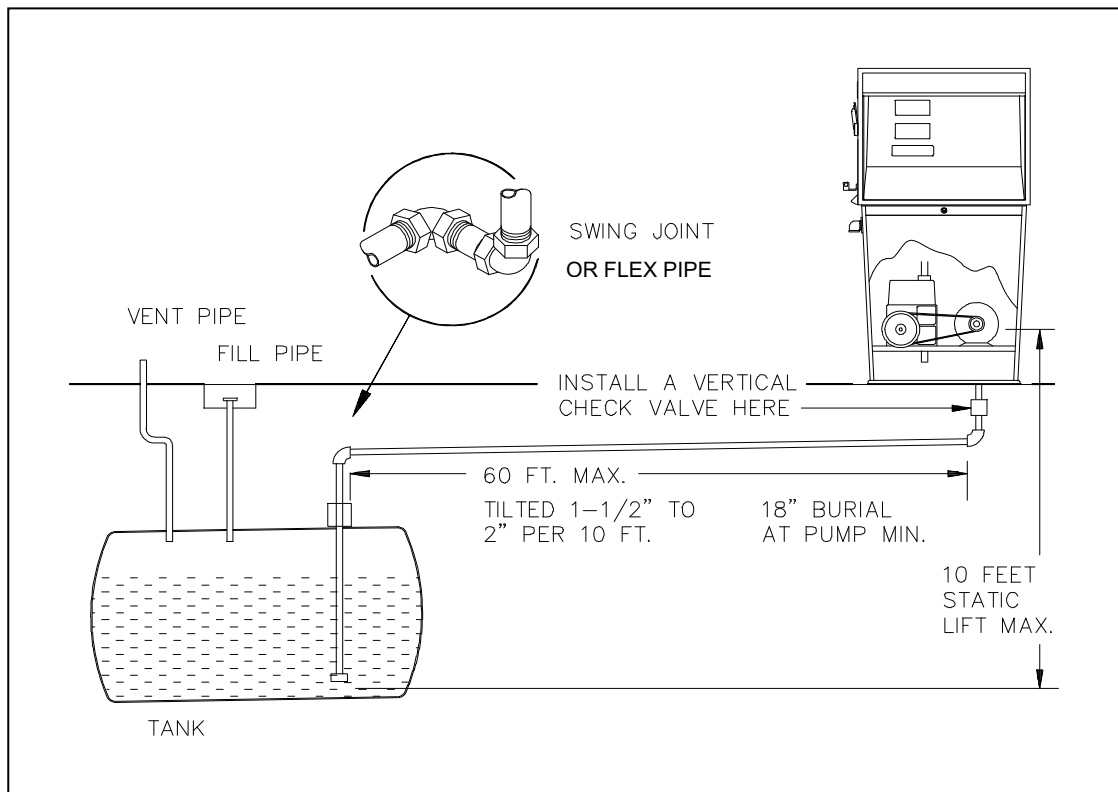

Figure 1
2. Swing joints or flex pipe must be used at the ends of the horizontal pipe between the dispenser and the tank. See Figure 1 on the following page. These joints prevent leaks which might develop through ground movement from settling of the tank, frost heaving of the ground or pump island settling. The joint or flex pipe under the dispenser also aids proper alignment of the product pipe to the dispenser inlet.
1. The total length of horizontal piping between the pump and tank must be no more than 60 feet. See Figure 1.
- e. Swing joints or flex pipe must be used at the ends of the horizontal pipe between the dispenser and the tank. See Figure 1. These joints prevent leaks which might develop through ground movement from settling of the tank, frost heaving of the ground or pump island settling. The joint under the dispenser also aids proper alignment of the product union or coupling. See Figure 1.